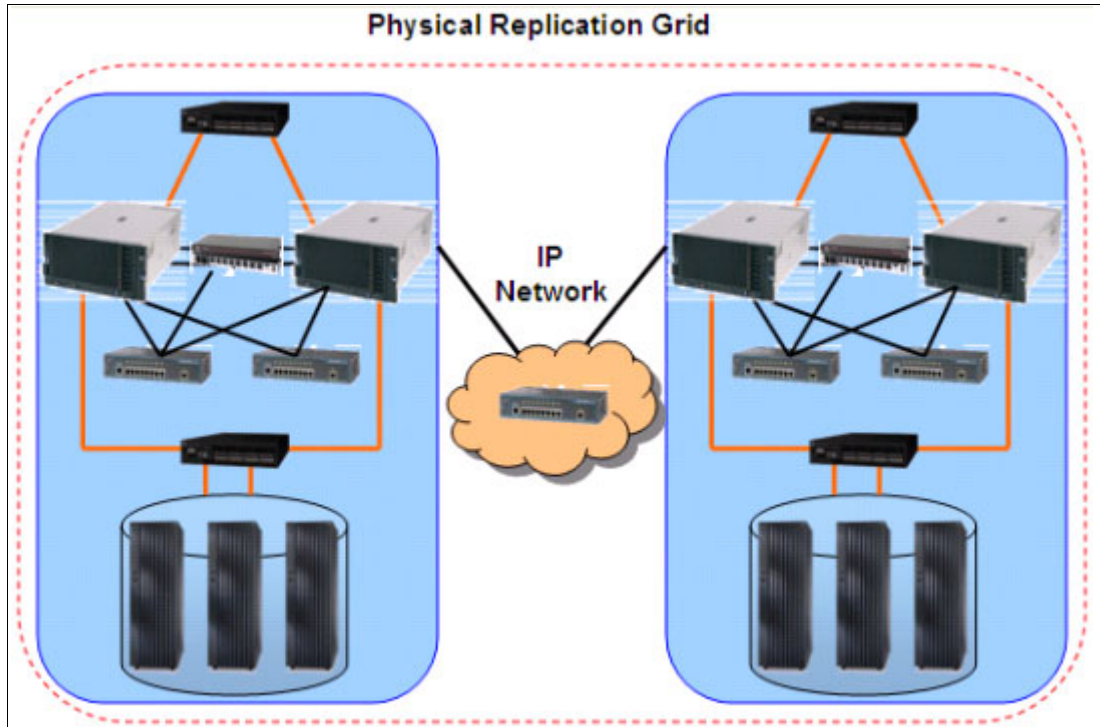

Figure 2-22 Physical Replication Grid
3. The ProtecTIER two-node clusters are connected through an IP-based WAN and exchange data (Figure 2-22).